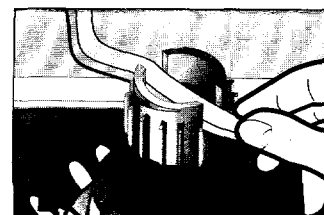

Figure 4
2. Connect the cable to the fixtures by placing the cable into the fixture top as shown. (see figure 4)